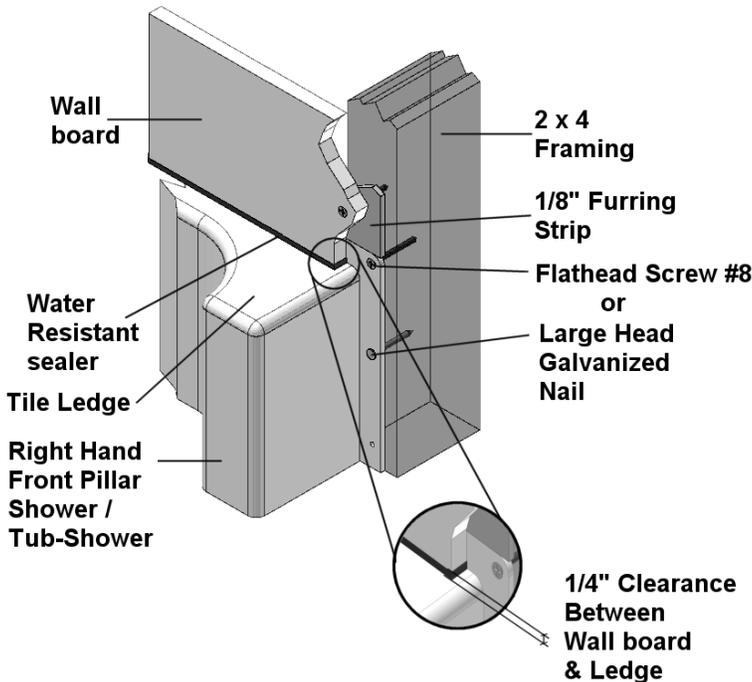

Fig. 2
10. For the 6296L/R model only, use 48" level or other long straight edge to ensure threshold is flat then secure threshold flange to floor (Fig. 2.)